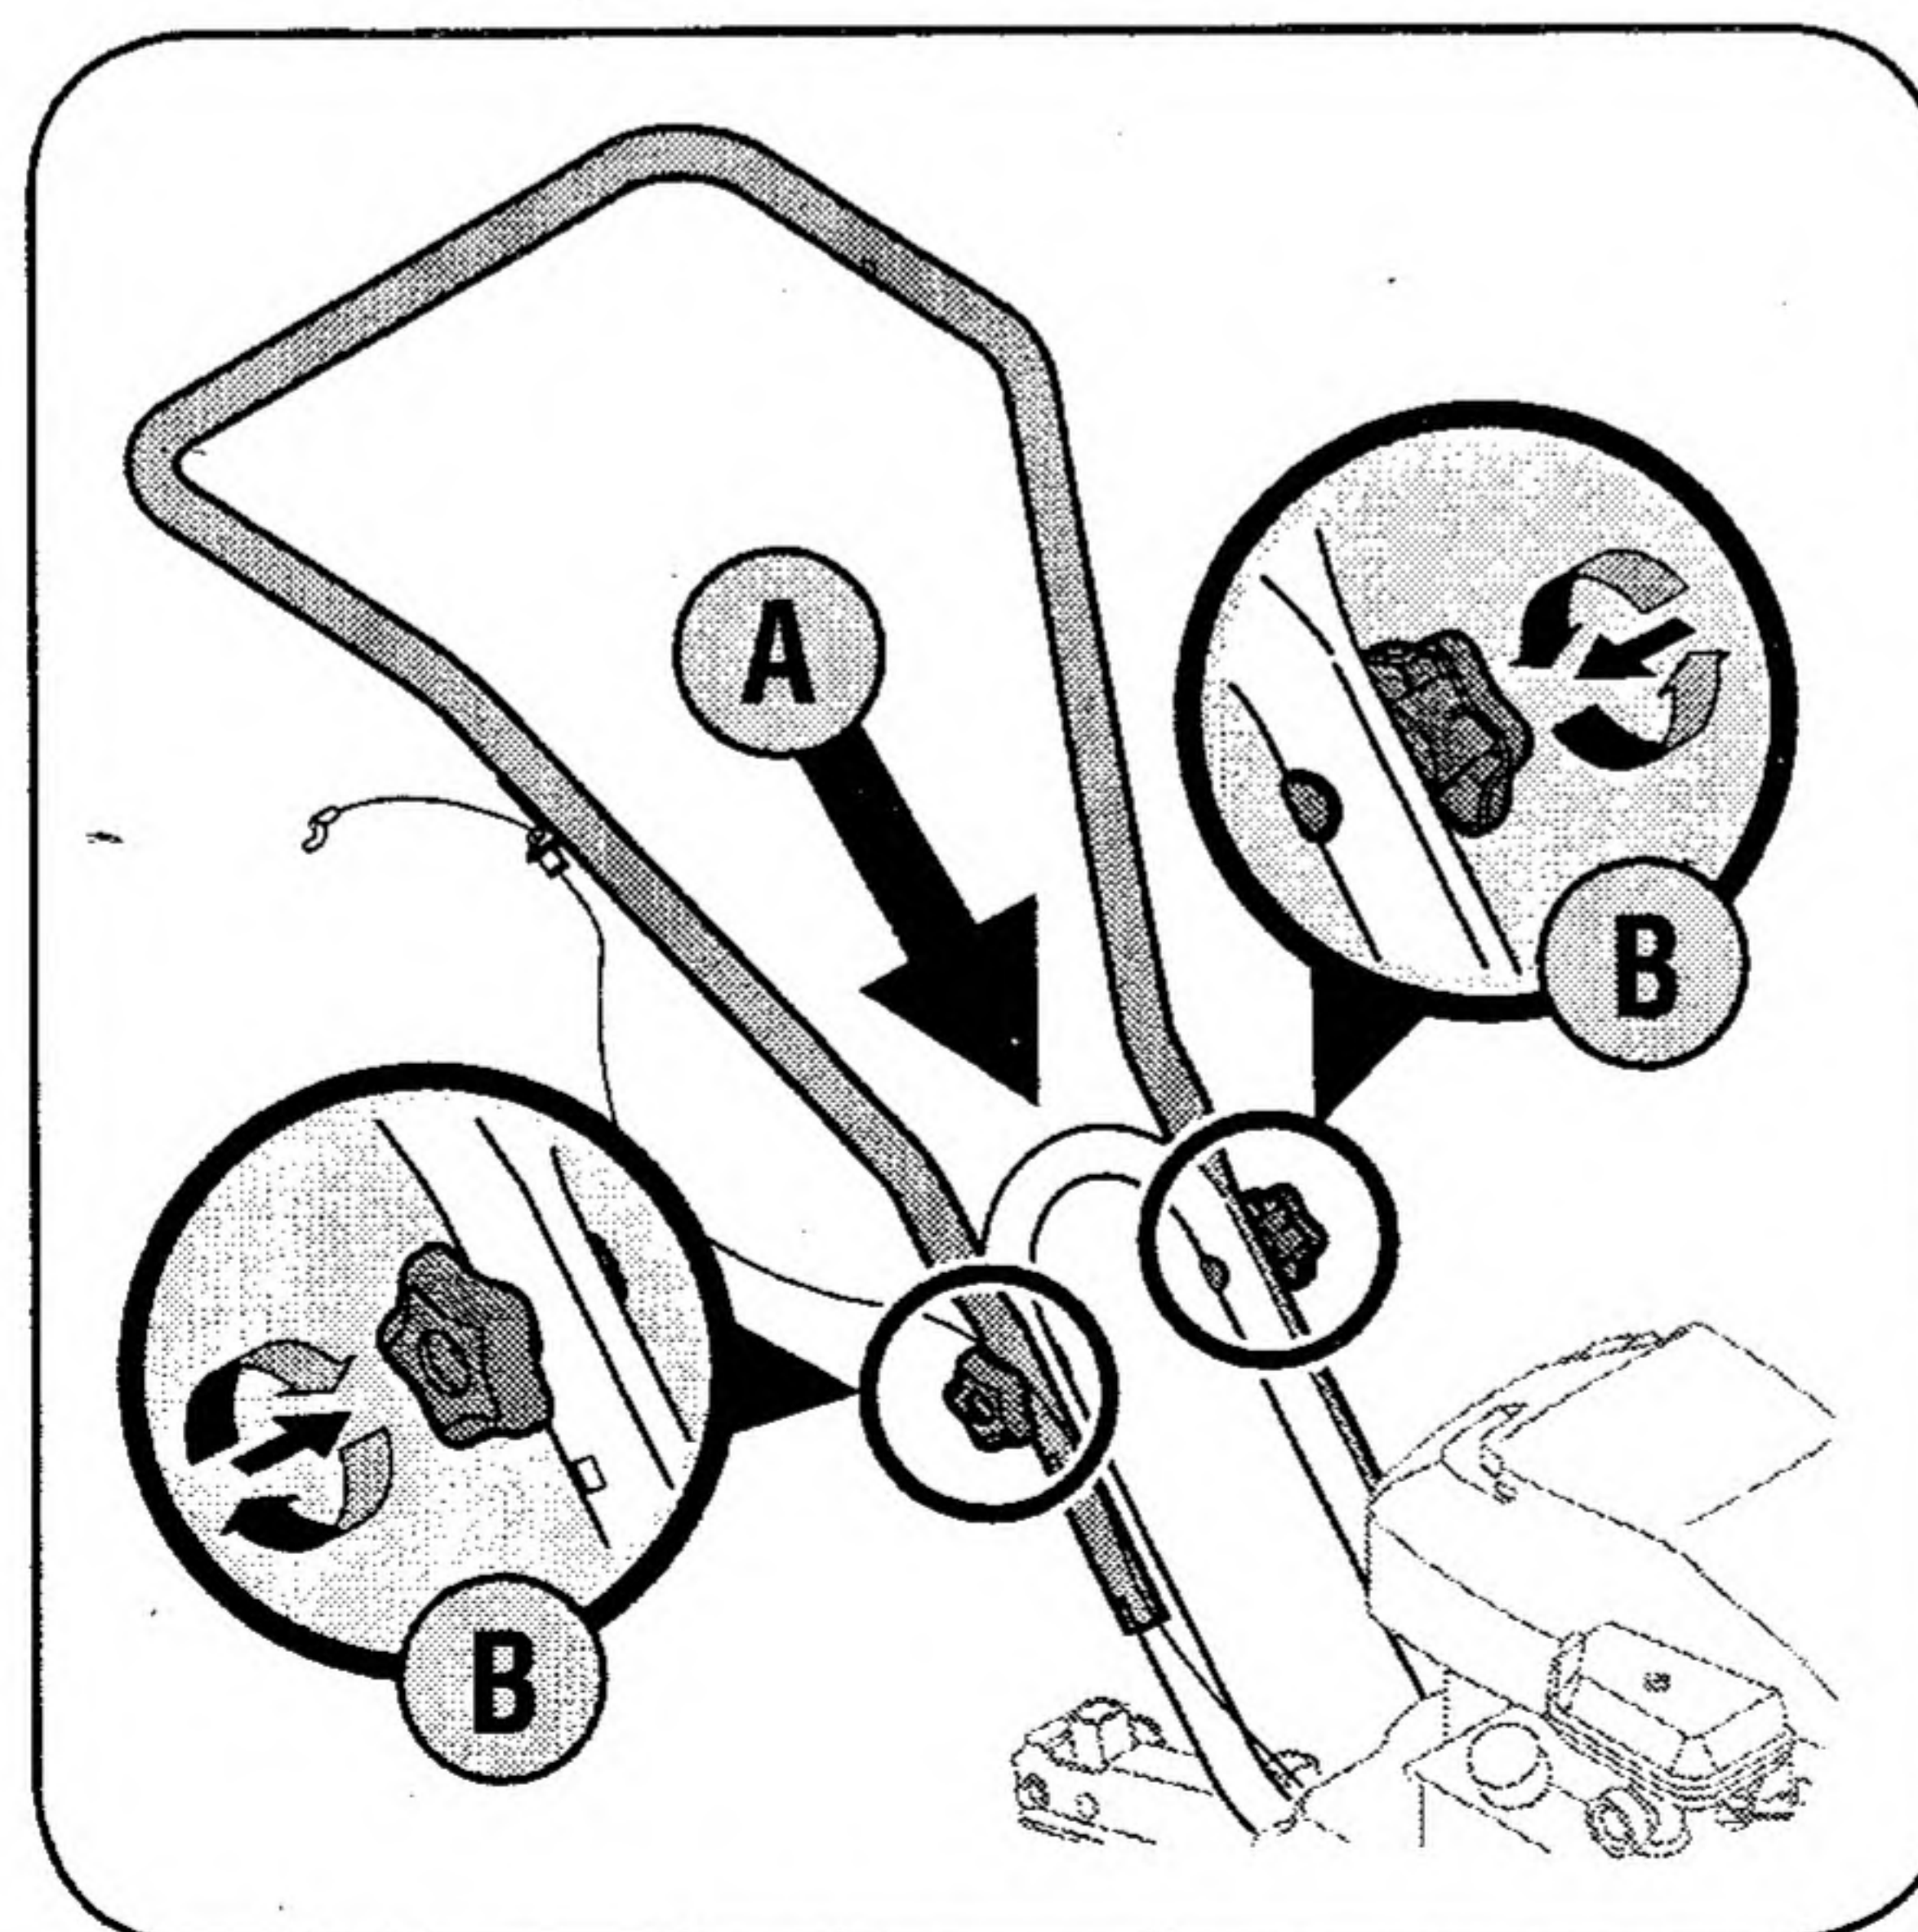

Figure 3-2: Attach and secure upper handle.
2. Position the upper handle onto the lower handle, Step A Figure 3-2. Align the holes on lower handle with the holes on the upper handle (choose the upper or lower holes depending on the desired handle height).
3. Insert carriage bolts through the holes and secure with star knobs, Step B Figure 3-2. Make certain carriage bolts are seated securely into one of the two positions provided.